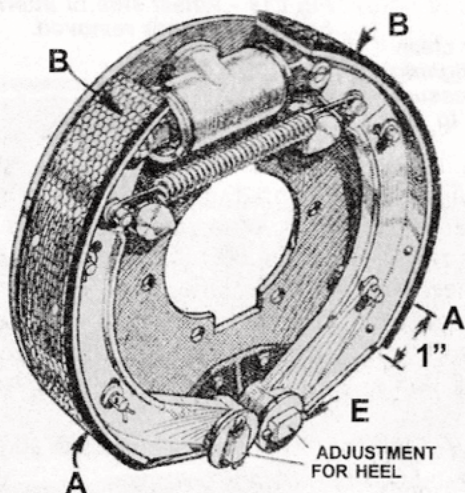
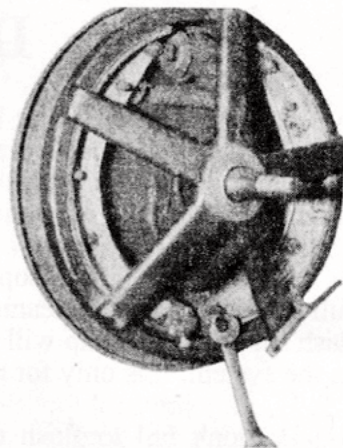

Fig. L14 - Wheel side solid shoe type brake showing eccentric anchors at E.
Fig. L15 - Using ring gage and feeler to make major adjustment on solid shoe.
2. Major adjustment or re-centering of the shoes is made possible by the eccentric mounting of the two anchor pins indicated at E in Fig. L14. Since this adjustment must be made with the drum off it is necessary to use a ring gage or cut away drum as shown in Fig. L15. Procedure is as follows:
3. Place ring gage on shoe assembly. Insert a 0.006 in. feeler blade between lining and drum of front shoe at a point (A, Fig. L14) one inch from the lower end or heel of the shoe. With feeler in place turn eccentric anchor (E, Fig. L14) until feeler blade is just gripped.
4. Now insert a .010 in. feeler blade at a point (B, Fig. L14) one inch from the upper or toe end of the lining. If the .010 blade will not go in, rotate cam (C) a very little and try both ends again. The adjustment is right when the .006 feeler blade just enters at the heel and the .010 blade just enters at the toe. These limits are for a firm, dense, solid type of lining. A soft type of lining requires a clearance adjustment of .015 at the top, and .005 at the bottom.